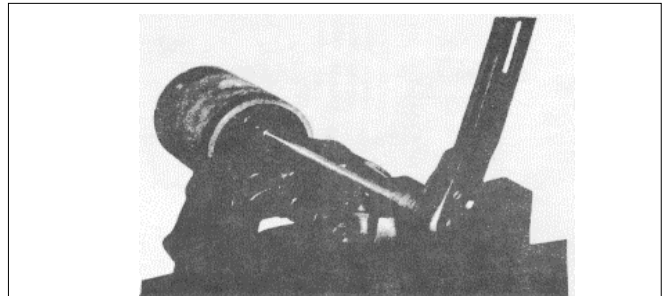

Fig. 8
- (6) Apply a small amount of International Compound No. 2, or equivalent, to the bolt threads and bolt head contact surfaces.
- (7) Install and tighten the bolts finger tight. Then clamp the connecting rod in a vise and tighten the bolts to 55-60 ft/lb. (75-8 N•m) torque (Fig. 8). Do not exceed this torque.